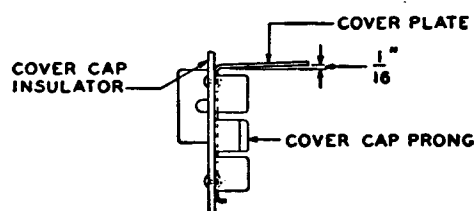

Fig. 101 - Cover Cap — 239 Type Relay
- 1.02 **Cover Cap:** The outer end of 239 type relay cover plate shall be approximately $\frac{1}{16}$ " above a line as shown in Fig. 101.